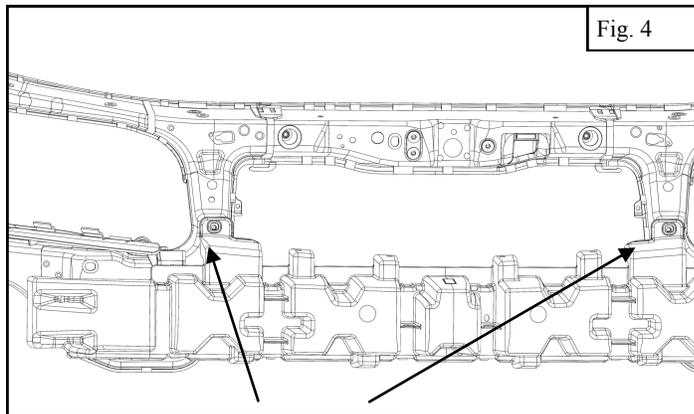

Fig. 4
3. Remove the two fasteners holding the plastic bumper crash channel to the vehicle and remove the crash channel by pulling it forward (Figure 4).